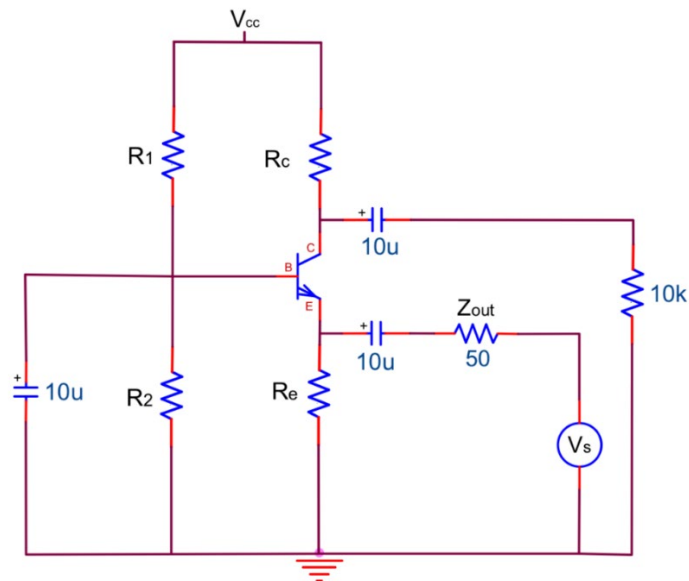

Figure 7.1
- Refer to figure 7.1. Using the 2N2222A transistor, design a common base amplifier with the following specifications: